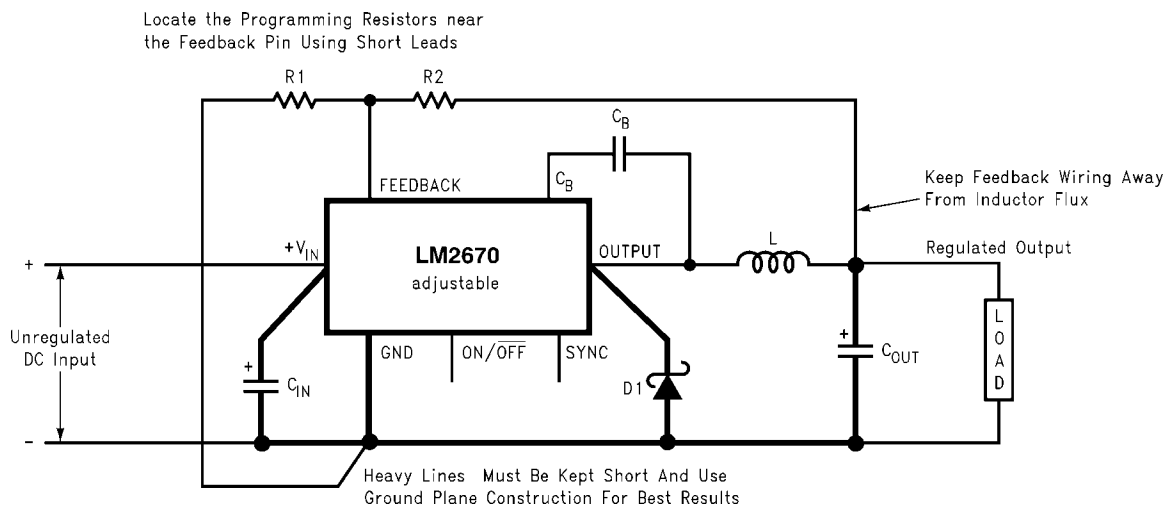

FIGURE 2. Basic circuit for adjustable output voltage applications
Step 2: Select an LM2670S-ADJ. To set the output voltage to 14.9V two resistors need to be chosen (R1 and R2 in *Figure 2*). For the adjustable device the output voltage is set by the following relationship: